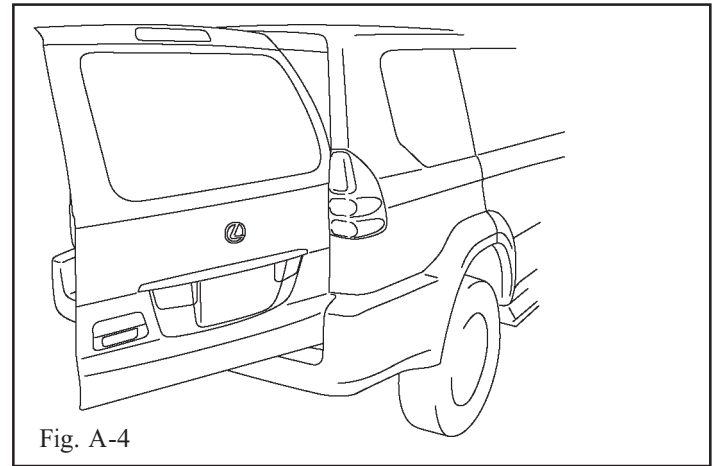

Fig. A-4
- 8. Open the back door. (Fig. A-4)